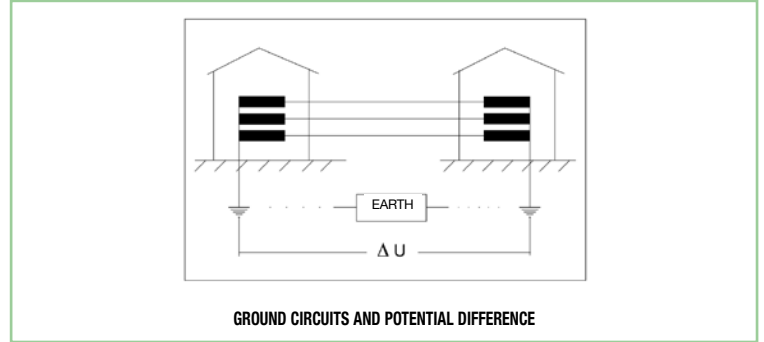

fig. 4
- the higher the isolation (in kV), the greater the security of the transmission in the presence of ground potentials, electromagnetic or temporary interference (lightning, discharge, etc.). (fig 4)